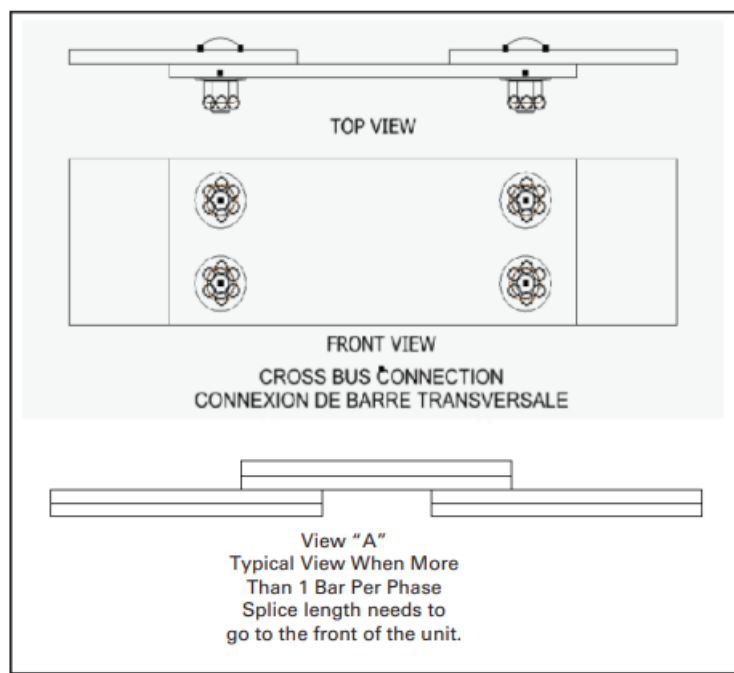

Figure 13. Splice plates
- Splice plates are short pieces of bus bar that join the main bus running horizontally through multiple section switchboards. Depending on the configuration and alignment of the switchboard, the splice plates used for the main cross bus may vary. These plates may either be flat or "Z" shaped. (See Figure 13.)